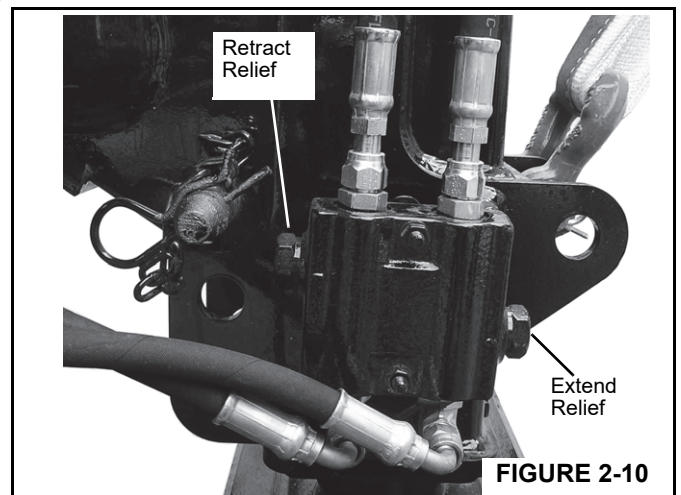

FIGURE 2-10
1. Disconnect the single front outrigger extend and retract lines (Figure 2-10). Cap the retract line and install a gauge in the extend line.